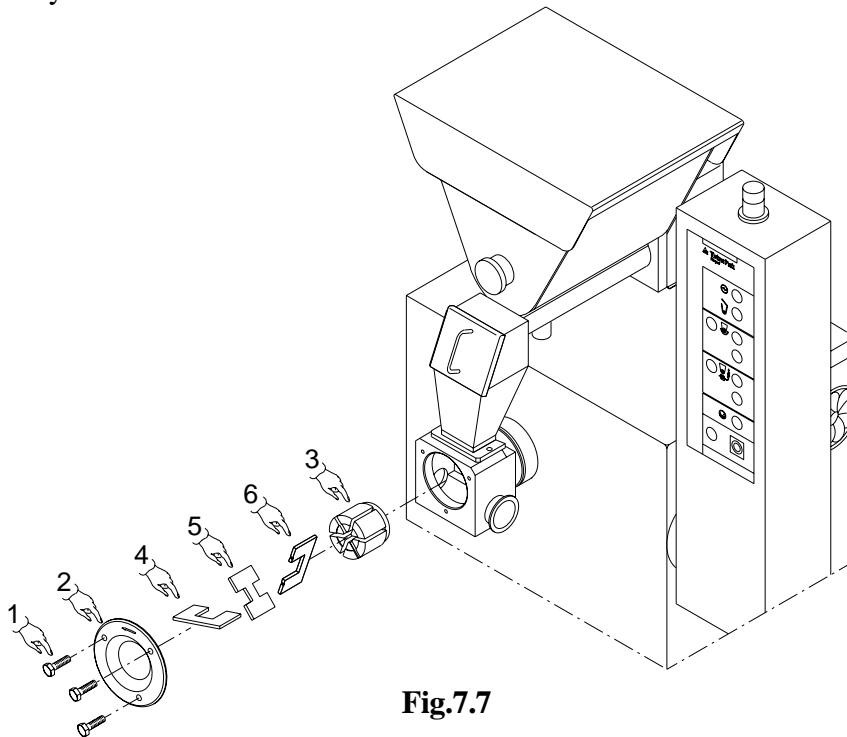

Fig.7.7
If the pump is noisy or gets blocked during operation, unscrew the screws (*Part.1, Fig.7.7*) and the front pump cover (*Part.2, Fig.7.7*), pull out the vanes (*Part.4-5-6, Fig.7.7*) and the rotor (*Part.3, Fig.7.7*).
- first insert the vane (*Part.6, Fig.7.7*) marked with two notches,
- insert the vane (*Part.5, Fig.7.7*),
- insert the vane (*Part.4, Fig.7.7*).